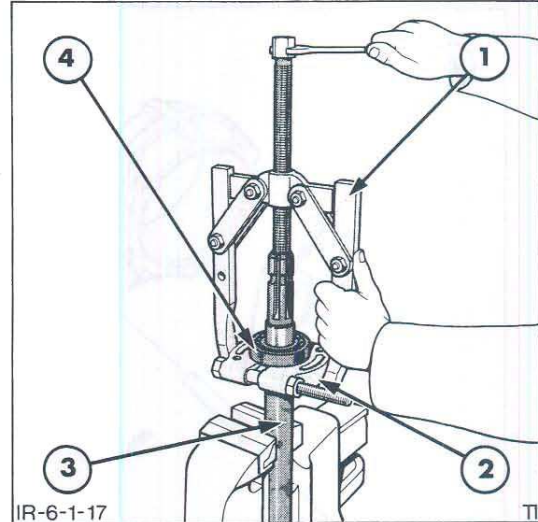

Figure 17
8. Using Puller, Tool No. 1003 or 9516 and Pulling Attachment, Tool No. 951 or 9190, pull the bearing and sleeve off the shaft, Figure 17.